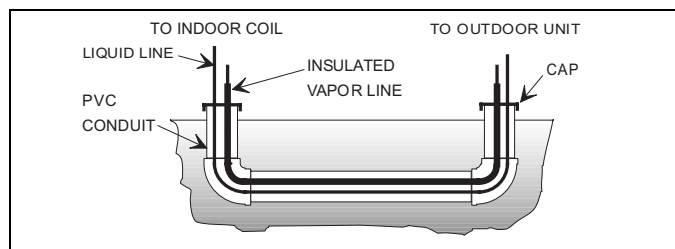

FIGURE 3: Underground Installation
5. Use PVC piping as a conduit for all underground installations as shown in Figure 3. Buried lines should be kept as short as possible to minimize the build up of liquid refrigerant in the vapor line during long periods of shutdown